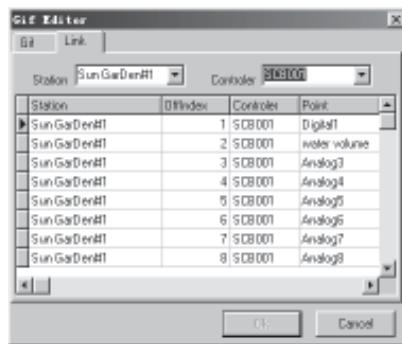

Fig. 4-30 Connect the Input and Output of Animated Picture and FAB
Similarly, you may select the other diagrams, here we will omit the detailed procedure. When you select the **Image** option, as in Fig. 4-30, you may insert the **BMP picture files**.
3. Select and click **Link**, the system will display the dialogue frame as in Fig. 4-30. Select the FAB I/O Port of the working station that actually corresponds to the exhaust fan and then click **Confirm**. The animated picture insertion and interconnecting is then complete. When the exhaust fan is running normally, the required operating conditions being satisfied, its state will be transferred in real-time to the monitoring system. It will be shown in the designed animated pictures. With this function you may observe the running state of any equipment graphically.